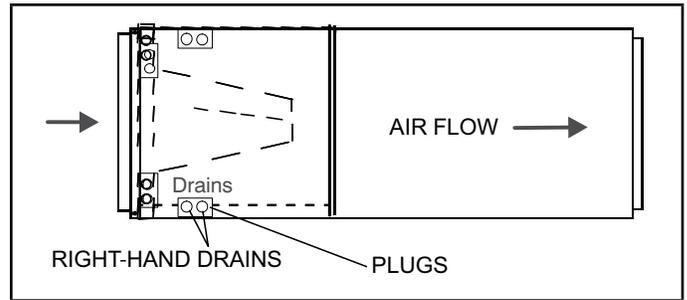

FIGURE 5. Right-Hand Discharge Configuration
- The horizontal configuration is shown in figure 5.